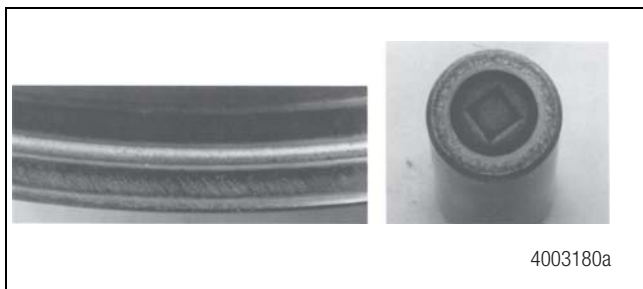
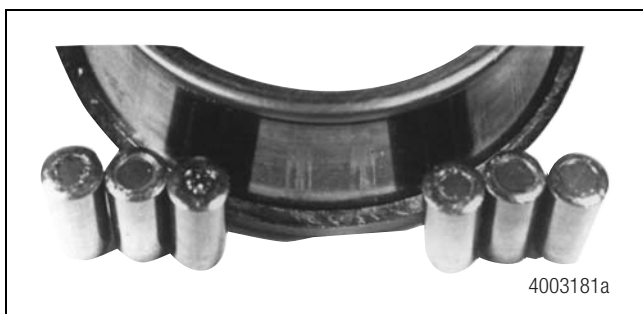

Figure 4.7
Figure 4.8
C. The roller cage is damaged. Figure 4.7 and Figure 4.8.